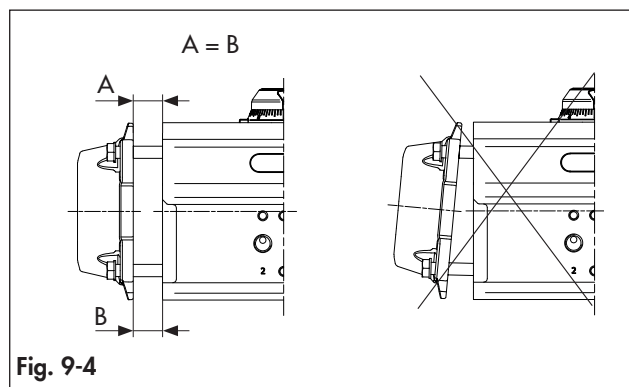

Fig. 9-4
- ➔ Remove the end caps as shown in Fig. 9-4 keeping a constant distance ($A = B$) between the actuator body and the end cap interface.